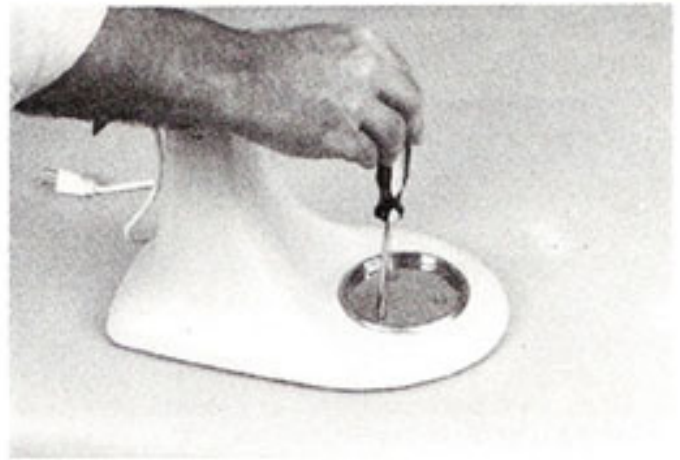

Fig. 74
- C. If the bowl screw cap has worn out, replace it. To remove the old cap, take out the three #10-24 x 1/2" flat head screws and lift out the old cap. Place new cap in place and screw it down tight with the three screws (Fig. 74).